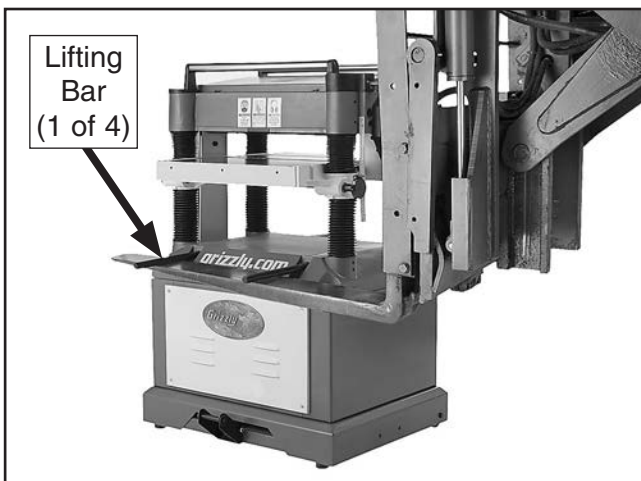

Figure 12. Lifting planer with forklift.
The planer is equipped with four lifting bars that extend in order to lift and place the planer, as shown in **Figure 12**.
1. Use forklift to lift machine off pallet (see **Figure 12**).